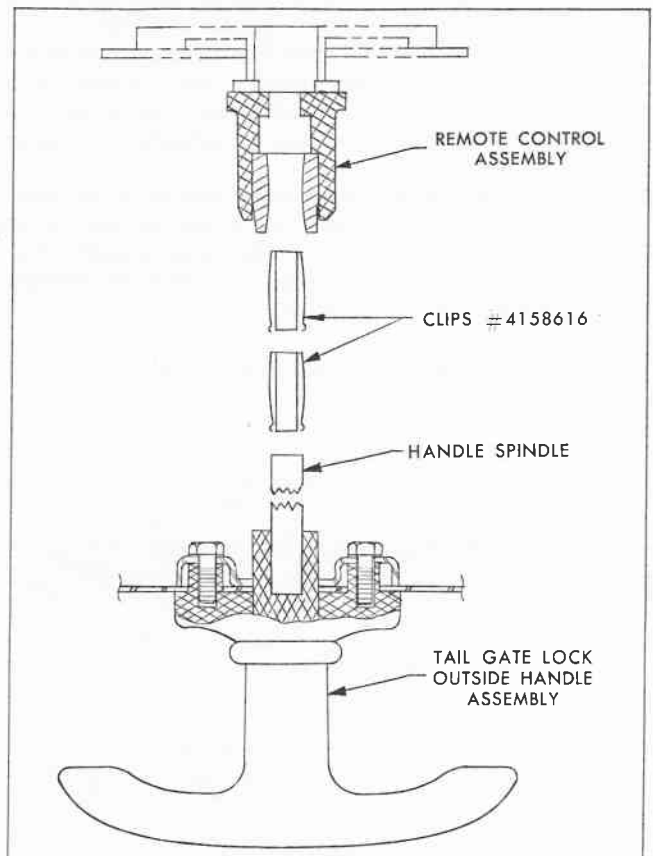

Fig. 11 Tail Gate Handle and Remote Control Assembly
2. Check remote control assembly and outside handle spindle for clips #4158616, indicated in Fig.11. Two (2) clips are required for proper handle spindle to remote control fit. Some early production bodies have no clips or only one clip. Install the proper number of clips where required.